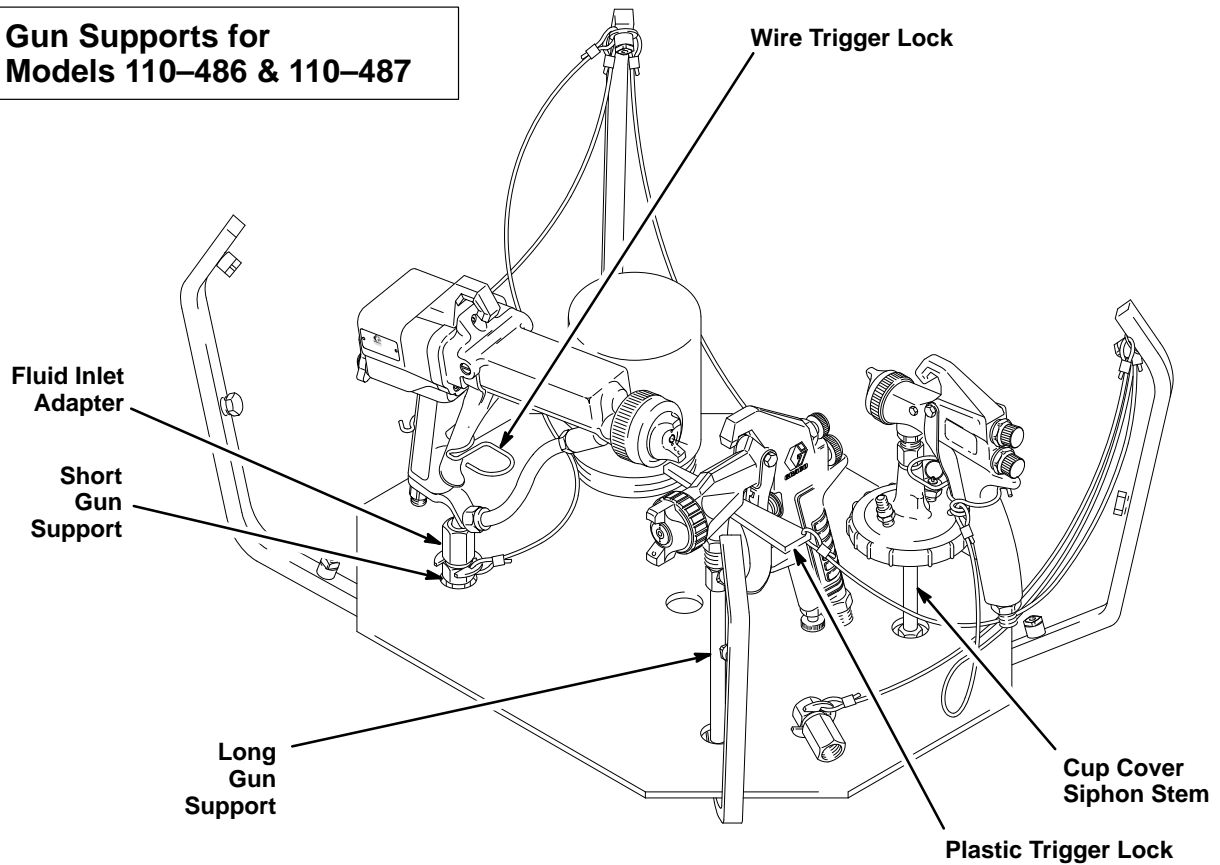

Fig 6
H.E.L.P. G1265, G1200, G1200B Guns: To lock the gun trigger in the open position, install the wire trigger lock around the gun handle and trigger as shown in Fig 6.
Set the cup cover siphon stem over the short gun support. Position the gun and hoses on the screen platform. See Fig 6.